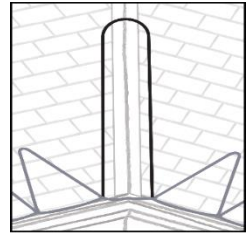

FIGURE 4: Cable pattern in a valley
**Pattern for valleys:** If a valley exists in a problem area of your roof, you must route cable up and back down the valley a minimum of 3 feet, as shown in Figure 4. Extend the cable higher if the warm area of your roof is higher.